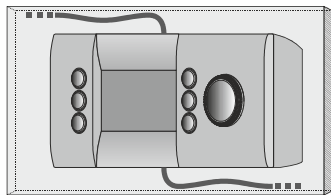

Fig. 8. Wall mounting example (magnet option)
6. The unit can then be conveniently attached to any metal surface (see Fig. 8).